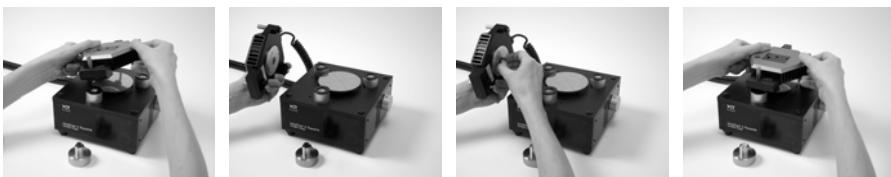

Figure 3-6: Attaching the Cantilever Holder
- ① Pick up the scan head with two hands (*Figure 3-6: Attaching the Cantilever Holder*, left).
- ② Turn the scan head to one side, firmly holding it in one hand (*Figure 3-6: Attaching the Cantilever Holder*, left center).
- ③ Pick up the Cantilever Holder from the Cantilever Exchange Tool with your other hand, and bring the Cantilever Holder near the Scan Head Deflection System (in the center of the metal disc on the bottom of the Scan Head) to allow it to snap on (*Figure 3-6: Attaching the Cantilever Holder*, right center).
- ④ Place the Scan Head back on top of the Sample Stage (*Figure 3-6: Attaching the Cantilever Holder*, right).